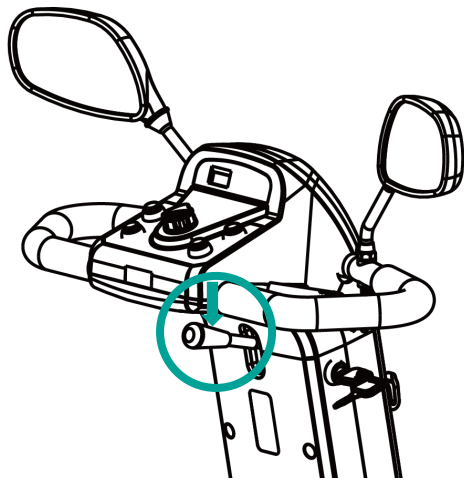

Figure 7.10
7.13.2 While holding the adjustment lever, you can raise or lower the steering column to the desired position. (See Figure 7.10)